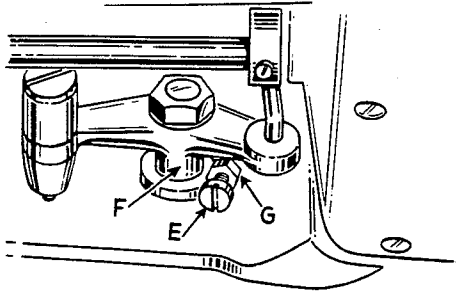

Fig. 18
This is accomplished by turning the machine over on its side, loosening lock nut (G, Fig. 18) and relocating the stop screw (E) on the lifter lever bell crank (F). By turning the stop screw counterclockwise, the presser bar connection is brought closer to the hand lifter. While turning the screw, move the hand lifter up and down continuously until no free motion can be felt. Tighten lock nut (G) to lock screw in position.